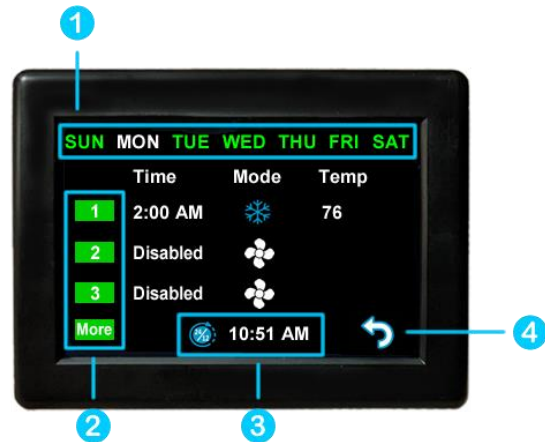
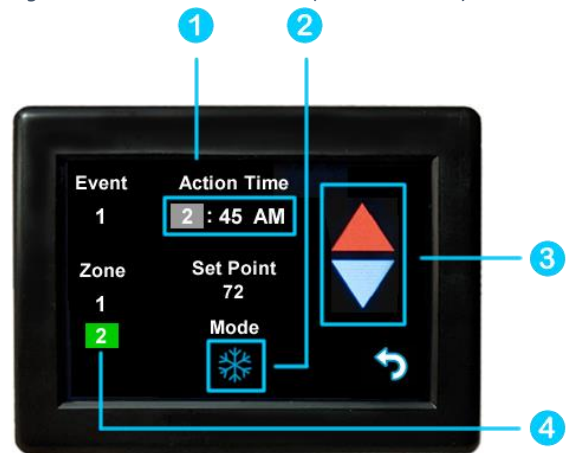

Figure 6 - Main Schedule Screen
Figure 8 - Schedule Edit Screen (Enabled Event)
The schedule supports 7 day per week scheduling of events. Events can include changes to the set point or mode of operation for one or more zones. *Figure 6* shows the main schedule screen.
Figure 8 shows the schedule edit screen once a valid time is set for the event.
- Tap the edit schedule button as described in the *Schedule – Edit, Enable or Disable* section in settings, to enter the main schedule screen, shown by Figure 6.
- Ensure that a valid (3) *System Time* is shown. Tap the day you want to set up a schedule for, then the event you want to edit, all shown by Figure 6. Tapping the event will take you to the edit schedule screen, shown by Figure 8.
- Tap the back button once again to return to the settings screen and this will save your schedule. Activate the schedule by pressing the schedule button with the “Enabled/Disabled” subtext as described in the *Schedule – Edit, Enable or Disable* section in settings. When enabled, it will be noted on the *Main Screen (3) Status Tray*.